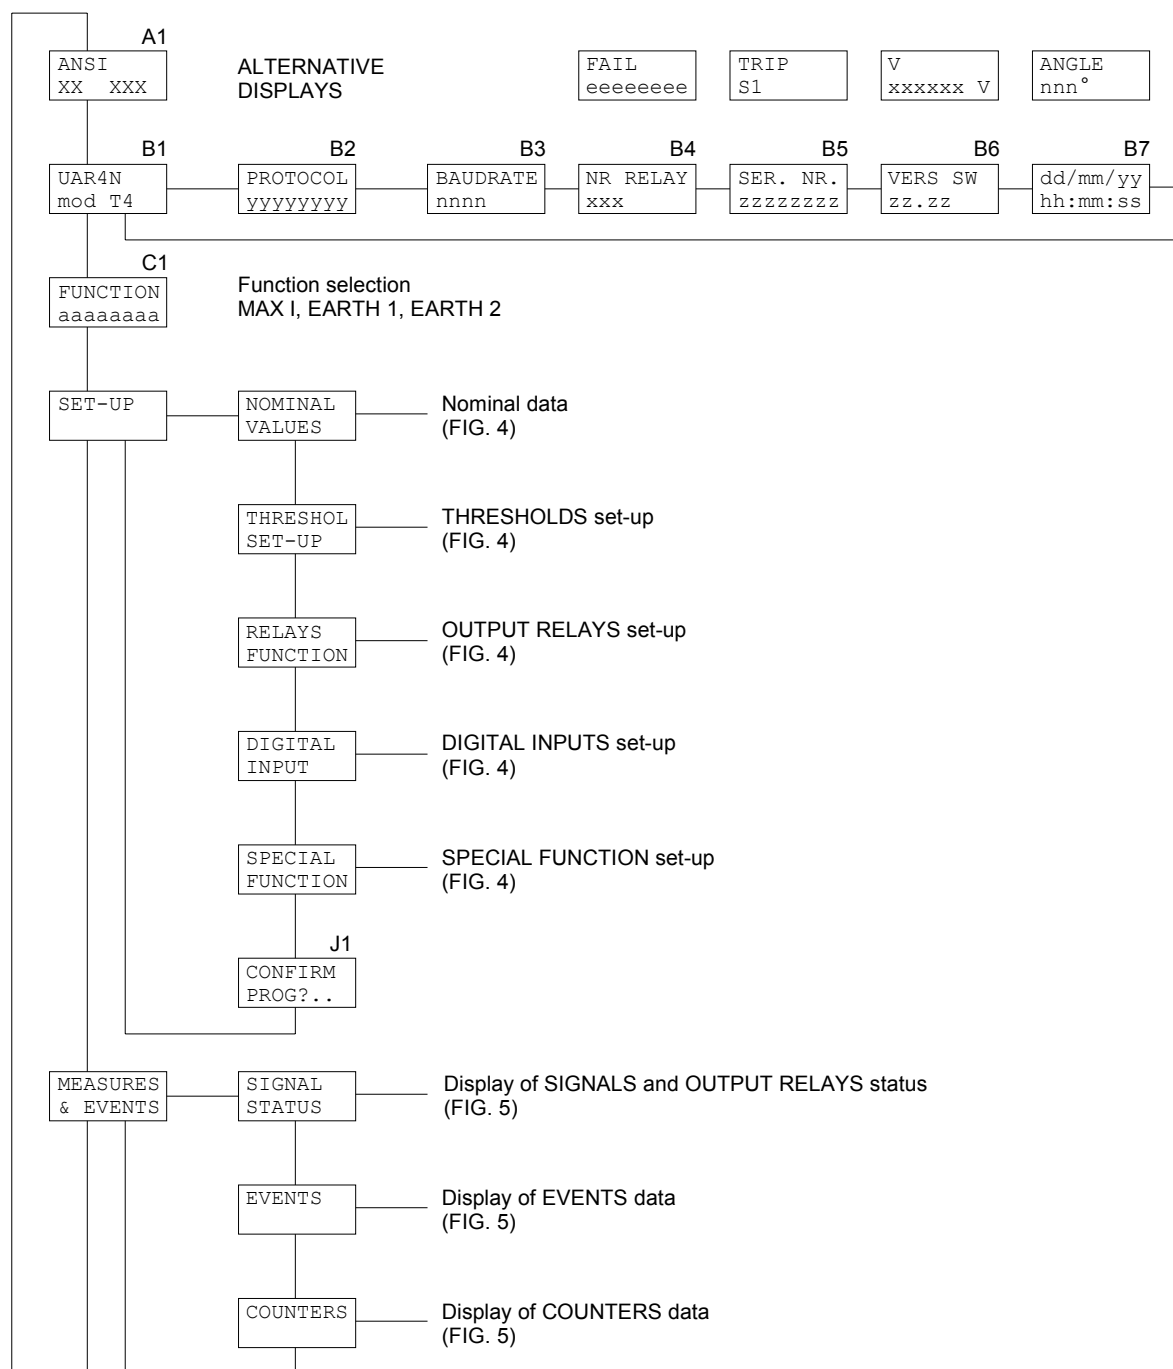

Figure 3
The programmable parameters are showed in Figures 3, 4 and 5 at the following references:
- 5) **CONFIRM** the new protection relay set-up at the visualization CONFIRM PROG? (Fig. 3, ref. J1) within 5 minutes depressing the push-buttons [ENTER] and  up to visualize **YES** and [ENTER] again to confirm.
- display on STANDARD MODE (Fig. 3, ref. A1 – par. 5.1)
The contents and the structure of the displayed messages are shown in figures 3, 4 and 5; the references A1, B1, B2 etc. identify specific displayed messages in the figures.
#### A1 - STANDARD DISPLAY (fig. 3)
### 5.3 Address and time (fig. 3)
**5.4 Function selection (fig. 3)****C1 - FUNCTION SELECTION (programmable)**